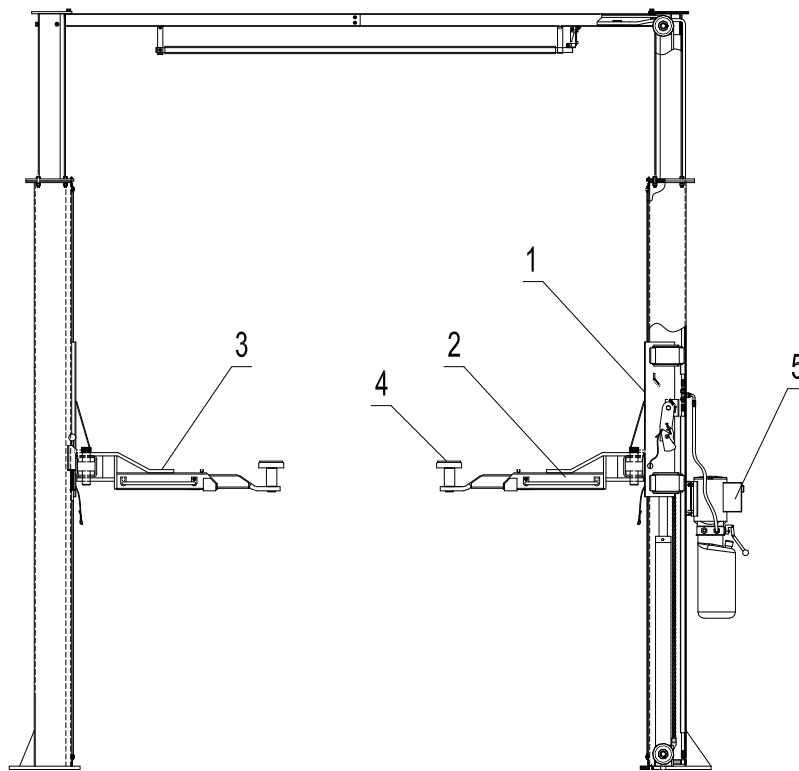

Fig. 4
1.1 FIXED STRUCTURE (Fig. 4)
1.2 MOVING UNITS (Fig. 4)
1.3 LIFT UNIT (Fig. 4)